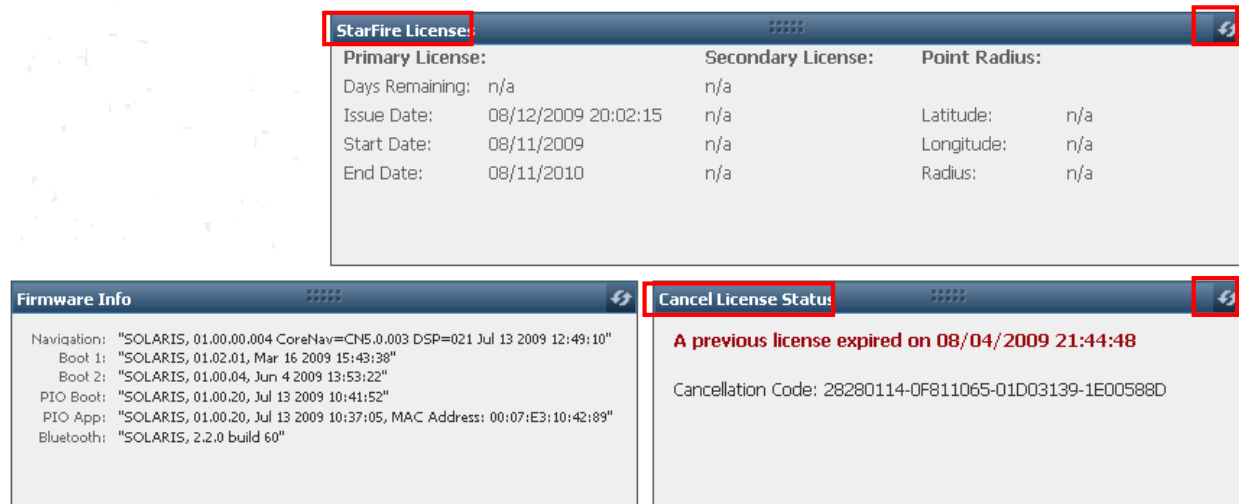

Figure 113: Receiver Options Tab – StarFire Licenses
Click  (refresh) on both the StarFire Licenses window and the Cancel License Status window (see Figure 113) to view the current output data.
This window provides the history of the last StarFire license cancellation and a cancel code to affirm the cancellation of the last StarFire license before the expiration date (see Figure 113). Refer to the below section, *How to Cancel StarFire License*, below.
2. View the *Cancel License Status* window on the Receiver tab to confirm the StarFire license cancellation. The window also displays a cancel code to affirm the cancellation of the StarFire license before the expiration date (see Figure 113).